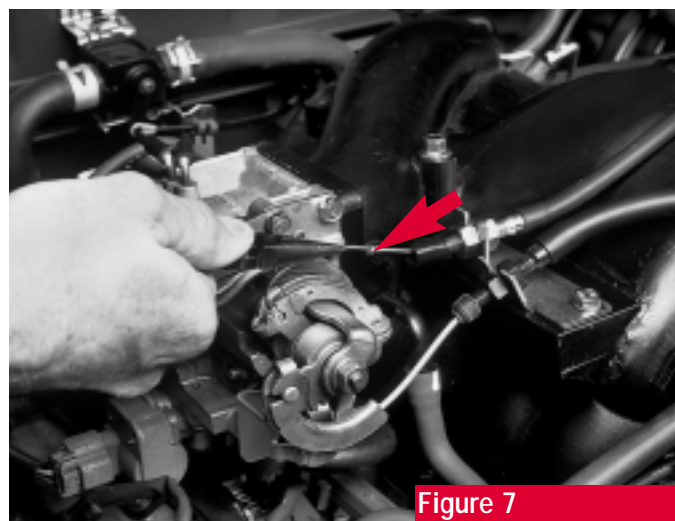
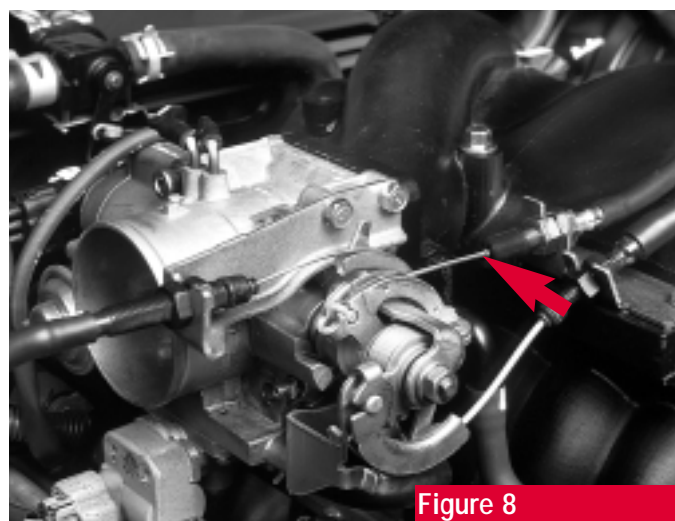

Figure 7
Figure 8
12. Note the tension and adjustment of the throttle cable and the transmission throttle-pressure (kickdown) cable (if equipped with an automatic transmission). You will need to re-create these adjustments during the assembly procedure. To help you remember, look for the small metal bead (the stake stopper) on the kickdown cable (**see arrow, figure 7**). If the cable is properly adjusted, the bead should be flush with the end of the cable's rubber sheath (**see arrow, figure 8**).